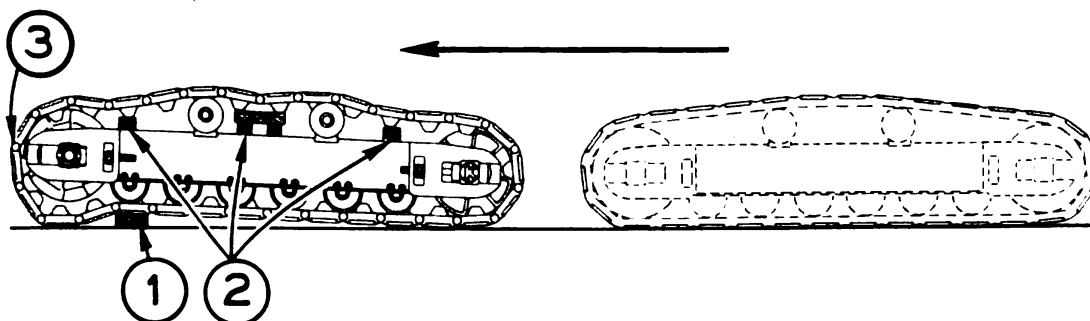
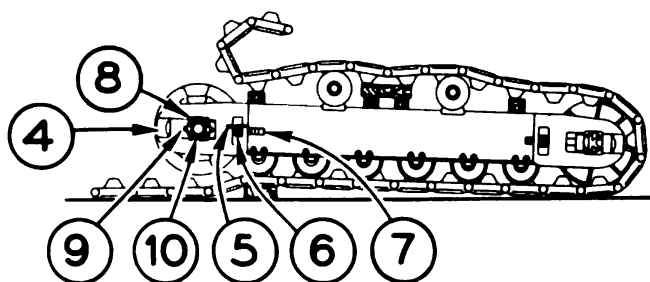

Figure 129
Figure 130
Figures 129 and 130
Place the machine on firm level ground. Travel the machine forward for a distance equivalent to the length of the crawlers to get the slack of the crawler belt on top. Place a 2" board (1) on the ground in front of the crawler from which tumbler is to be removed and travel machine over the board until the board is directly under the first roller back of the tumbler as shown in Figures 129 and 130. Place blocks (2) between crawler frame and shoe as shown to prevent belt from sagging when split for tumbler removal and thus facilitate driving out crawler shoe pin. Select a shoe pin at about (3), and remove pin. Allow the lower end of the shoes to drop to the ground and roll the top end back and tie with wire Figure 130. Remove shim and the bar (4) from both sides of the crawler frame end. Take out lock pins (5) and screw adjusting nuts (6) off adjusting bolts (7) on the inside and outside of the crawler frame. Roll tumbler forward out of the frame. Both bearings
TO REMOVE COMPLETE CRAWLER BELT: (SEE FIGURES 129 AND 130)